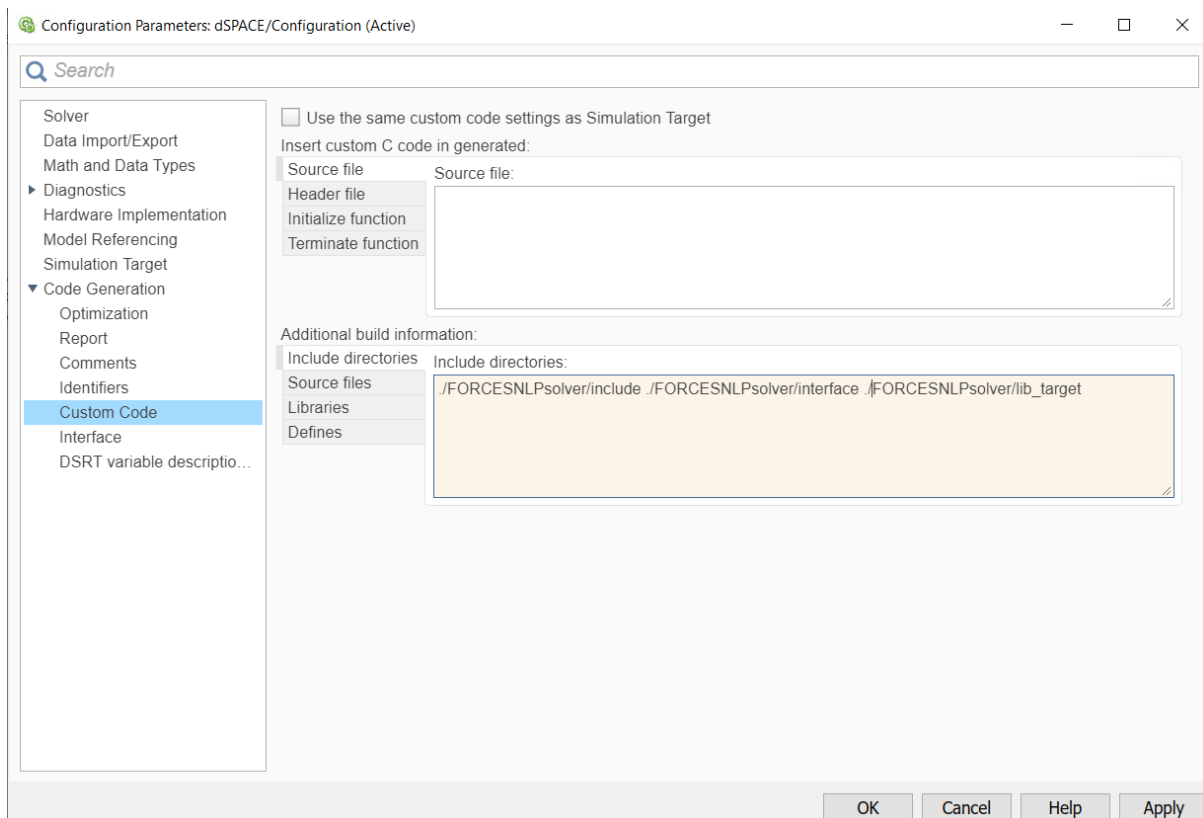

Figure 13.39: Add the directories included for the code generation.
- 10) In the "Code Generation/Custom Code" tab, include the directories (see Figure 13.39):